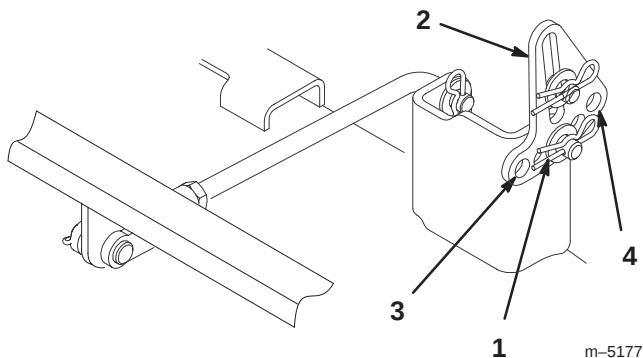

Figure 37
5. Remove the hairpin cotter and washer from the leveling bracket (Fig. 37). To level the blade(s), reposition the leveling bracket(s) in a different hole and install the washer and hairpin cotter. (Fig. 37). A front hole lowers the blade height and a rear hole raises its height. Adjust both sides as required.